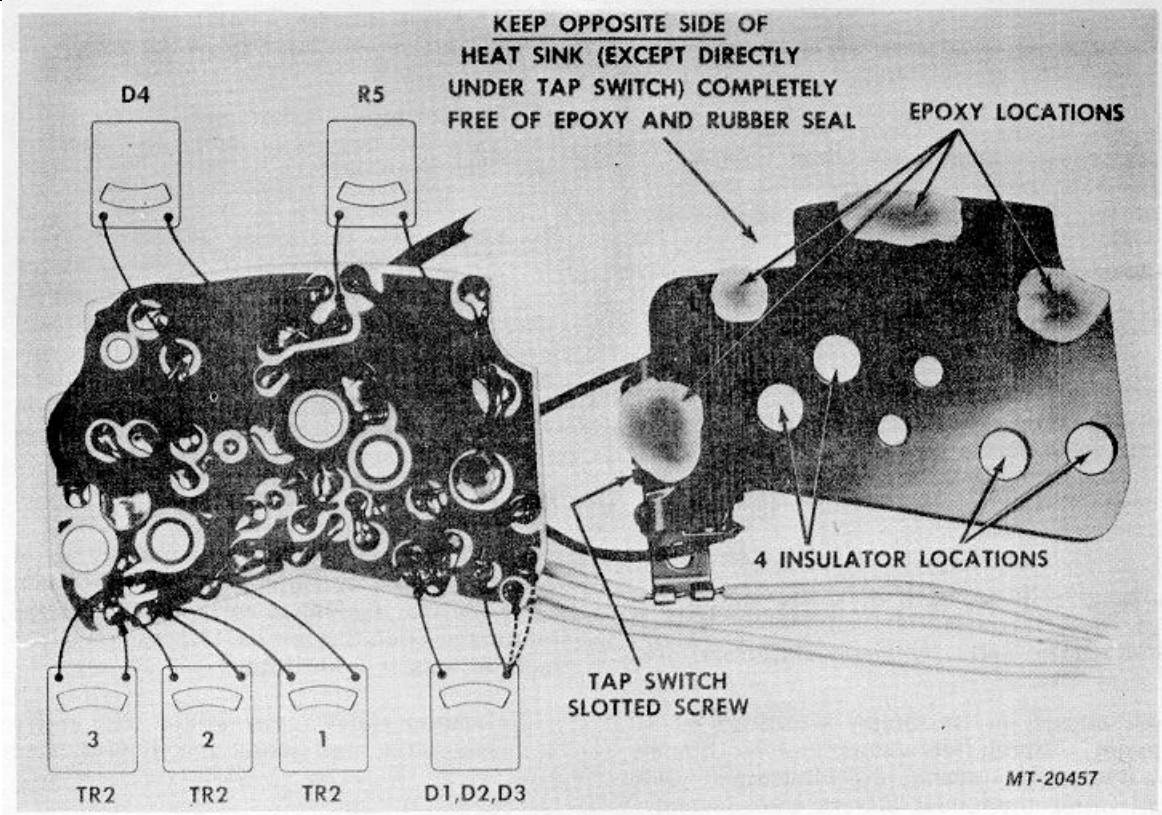

Fig. 13 Checking Regulator Components (Regulator Shown in Fig. 12)
4. Check and replace components as follows. Refer to Figure 13.
- a. If heat sink is reused, burn away with soldering iron old epoxy separating heat sink from panel board. Apply new epoxy (Delco-Remy part number 1966807 or equivalent) at all four (4) locations on old or new heat sink (Figure 13).
Keep opposite side of heat sink (except under tap switch) perfectly clean and free of epoxy and rubber seal (Fig. 13).